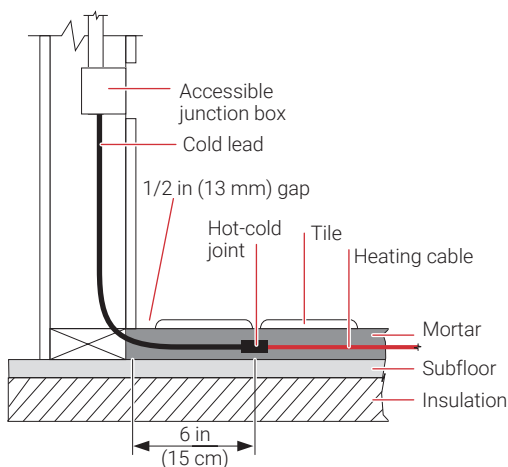

Figure 13: Typical junction box installation
2. Install the junction boxes (see Section 4 and Figure 13 for details). For single conductor cables (Design B – see Section 1.9), the cable layout should begin and end at the junction box to allow both cold leads to be connected to the junction box.